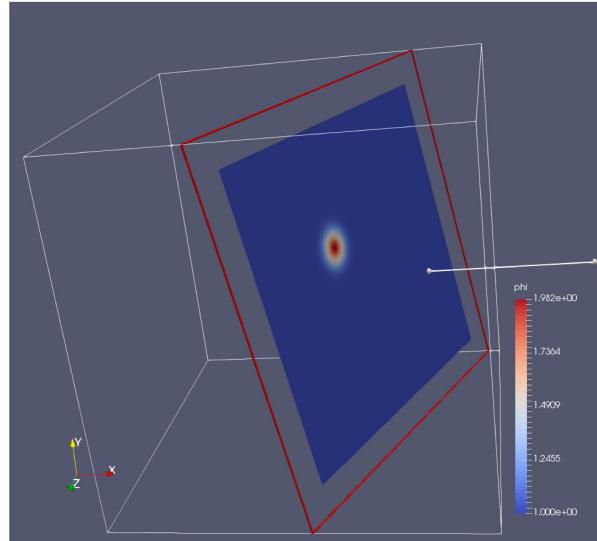

Fig. 16.1: : Plotfile image generated with ParaView
7. You can play with the Plane Parameters to define a plane of data to view, as shown in Fig. 16.1.